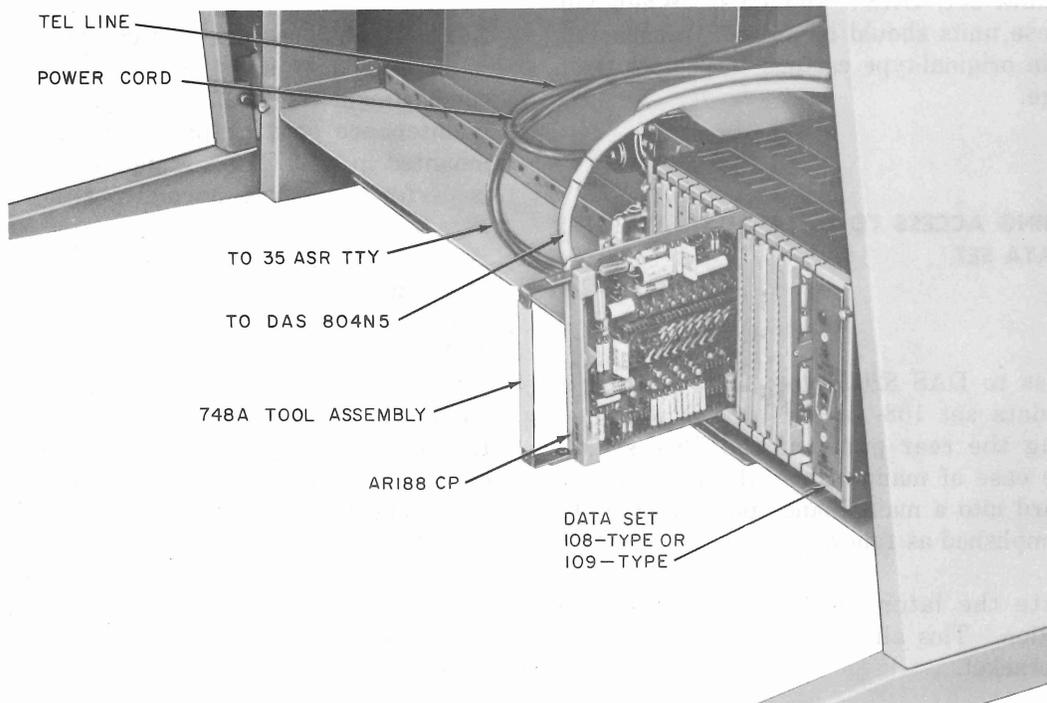

Fig. 2—Model 35 ASR TTY—Location of DAS 820G1—AR188 CP Extended
2.02 To obtain access to DAS 820G-type, 820J-type, and data set 108- or 109-type, the lower compartment front panel is removed. There is no maintenance position provided for the equipment mounted in a 35 TTY. Maintenance of these units is performed in the normal position as shown in Fig. 2.